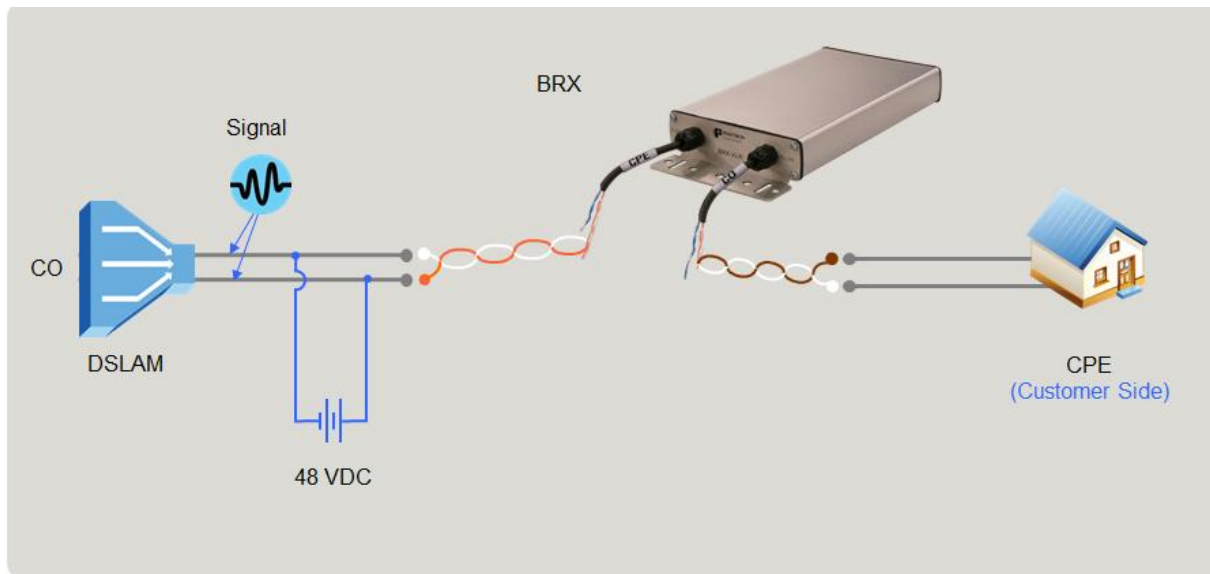

Figure 16: Using Sealing Current to power the BRX-VDSL2
BRX-VDSL2 devices are typically powered from the POTS sealing current (-48V) originating from the DSLAM or the Central Office (CO). This is illustrated by Figure 16 below: